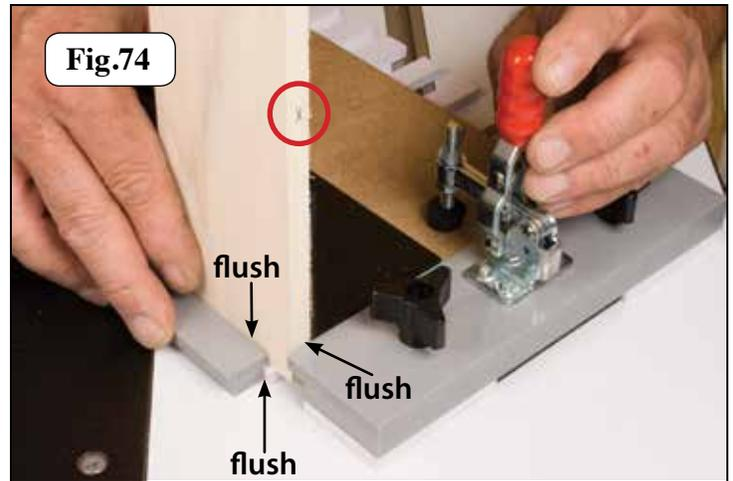

Fig.74
you will now remove it from the jig. Place the right angle fence on to the jig between the template alignment blocks, with the non-slip abrasive strip facing the through dovetail / tail side of the jig. Adjust the rubber feet on the toggles for the thickness of the MDF sub-plate. Your toggle clamp should produce a slight snap when engaged. If the toggle is too tight it may cause the jig to flex. Place a reference mark on the side edge of the stock (X). This edge must always be placed up against the template alignment block for the joint to align properly. Place the side piece of your box vertically, on the jig, in front of the right angle fence, with the reference side against the template alignment block. With your stock on the jig and your reference mark facing the template alignment block, place your gray set-up block with the narrow side facing down on your router table. Slide the block up against the edge of the through dovetail / tails template. While holding the set-up block against the edge of the through dovetail / tail template, slide the right angle fence and stock up against your set-up block until flush. Secure the MDF sub-plate with toggle clamps (See **Fig. 74**).